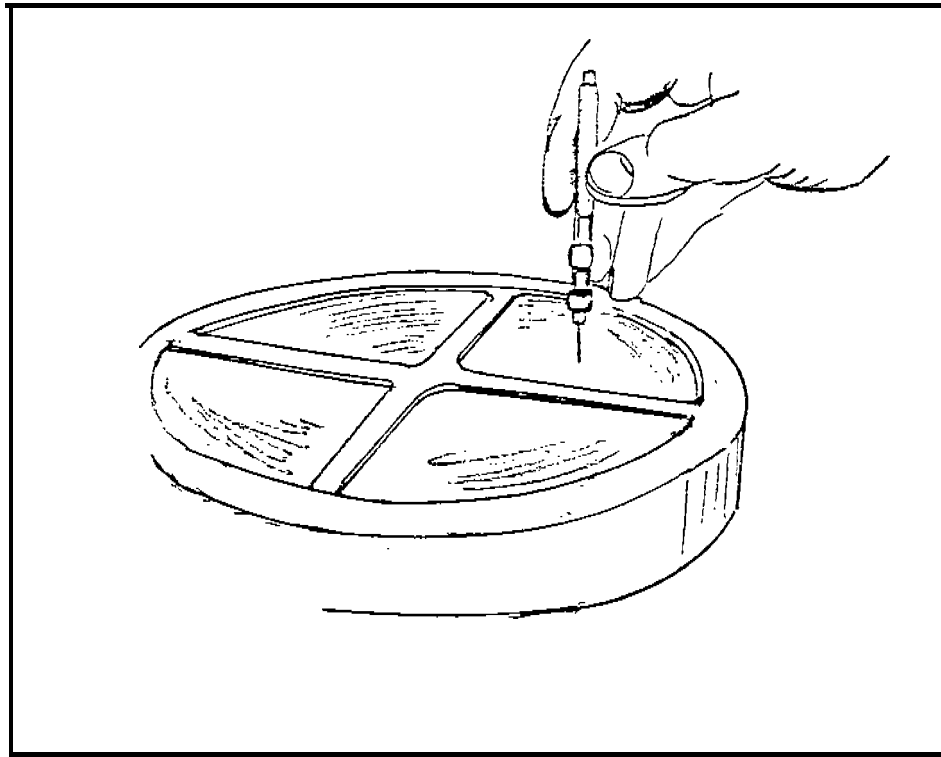

Figure 4. Wire Guage Cannot Pass Through Flame Arrester
7. () A 0.018 inch wire guage cannot pass through the openings of the flame arrester core as shown in Figure 4. The procedure for making this inspection (dated August 5, 1985) is attached.